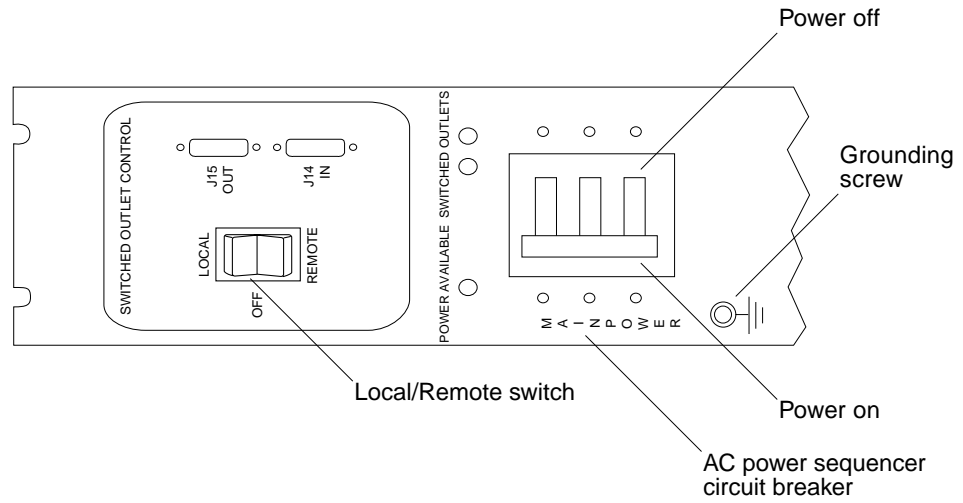

FIGURE B-5 AC Power Sequencer Control Panel
1. Verify that each AC power sequencer circuit breaker is in the Off position and that the Local/Off/Remote switch is in the Remote position on each power sequencer (FIGURE B-5).